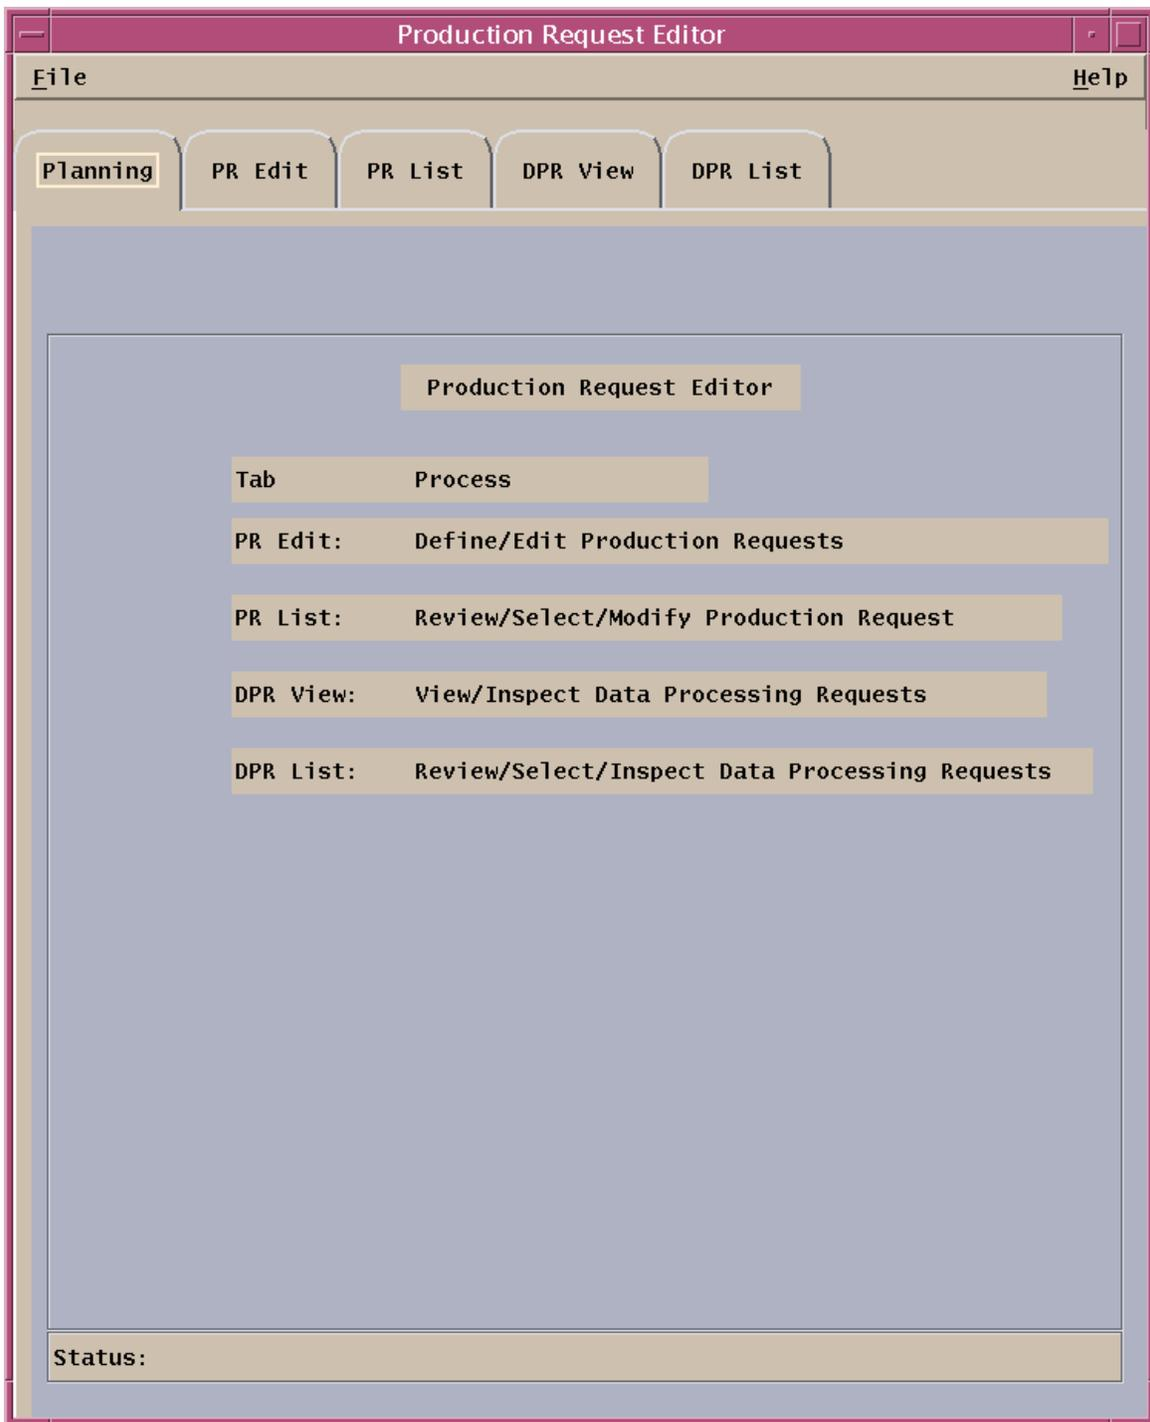

Figure 15. Production Request Editor Introductory GUI
- The **Production Request Editor** graphical user interface (GUI) introductory window (Figure 15) is displayed.
The procedure for creating a new production request starts with the assumption that all applicable servers and the **Production Request Editor** GUI are currently running and the **Production Request Editor** Introductory GUI (Figure 15) is being displayed.